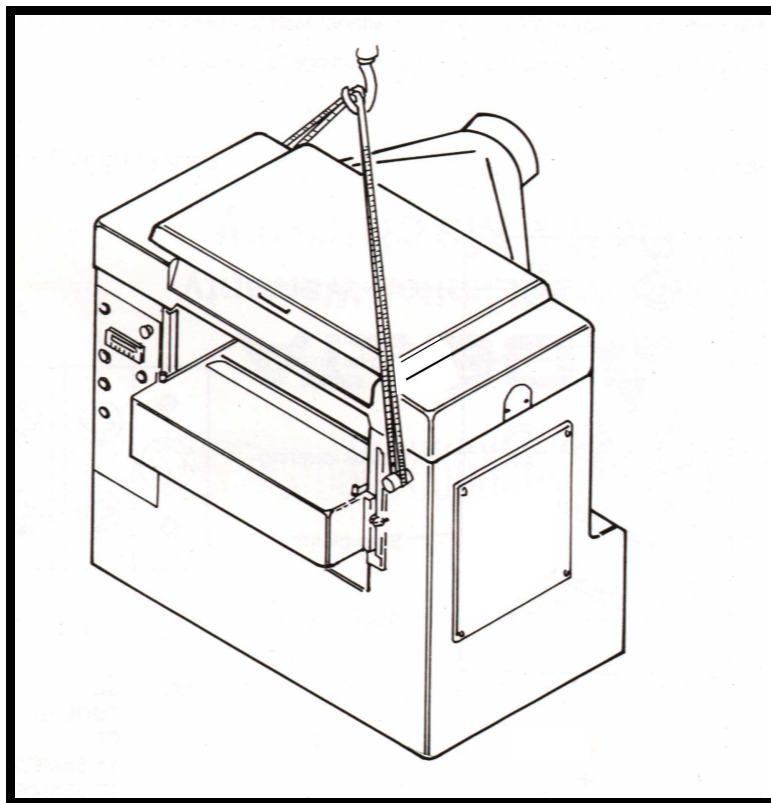

Fig. 2
9. For lifting, please refer to Fig. 2.